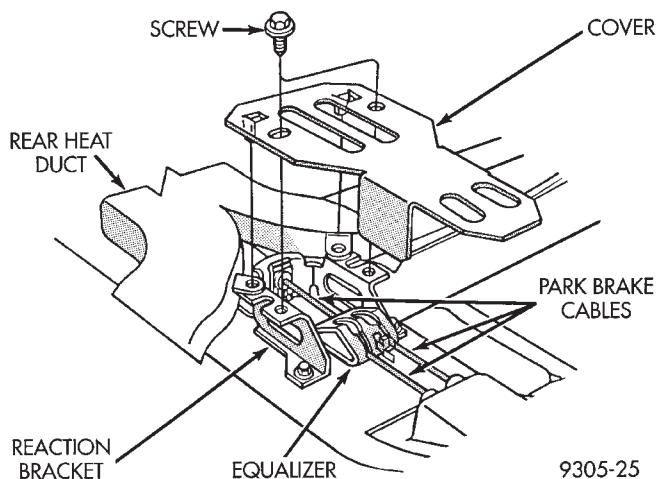

Fig. 10 Park Brake Equalizer And Cover
(9) Install equalizer cover back on reaction bracket (Fig. 10). Torque equalizer cover to reaction bracket mounting bolts to 10 N•m (88 in. lbs.).